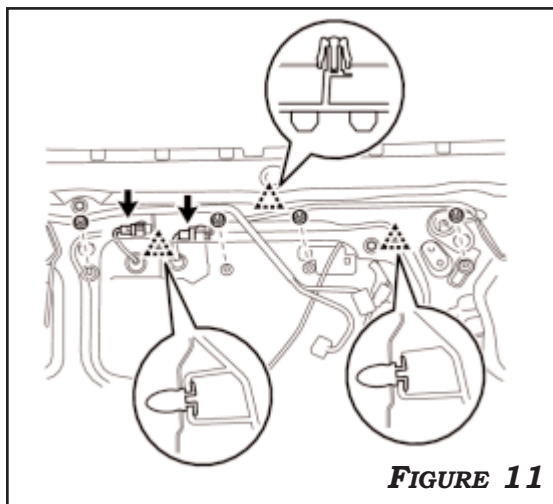

FIGURE 11
10. REMOVE (4) 10MM NUTS, DISCONNECT CONNECTORS, AND DISENGAGE THE CLIPS TO REMOVE THE BACK DOOR OUTSIDE GARNISH SUB-ASSEMBLY. **FIGURE 11**